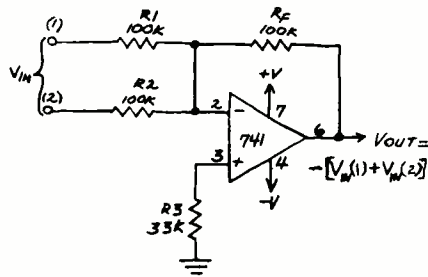

Fig. 5. Op amp summer. *amplifier* is the technical name for this circuit.
Adding with an Op Amp. Figure 5 shows an op amp adder that will accept two input voltages, add them and deliver the sum as an output voltage. *Summing*
Averaging with an Op Amp. A summing amplifier can also average two incoming voltages. All that's necessary is to make the ratio R_F/R_{IN} equal to the reciprocal of the number of input voltages. For example, to convert the adder circuit of Fig. 5 to an averager, leave the values of R_1 and R_2 undisturbed but change R_F to 50,000 ohms. This causes the ratio of R_F/R_{IN} (1/2) to equal the reciprocal of the number of inputs (2).